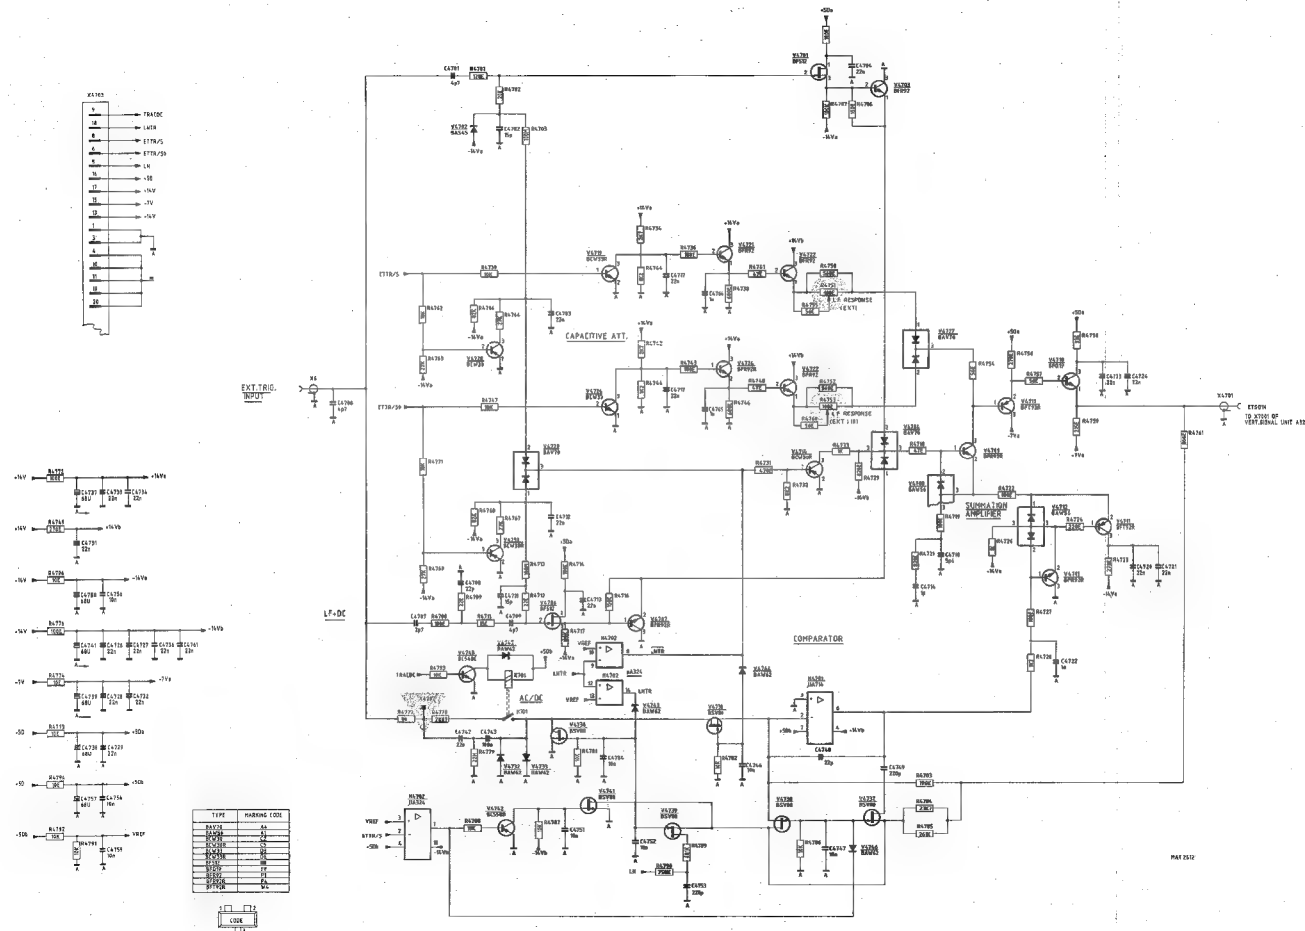

Figure 8.31.2 Unit A31 - EXT TRIG INPUT - circuit diagram.
8.31.2 Circuit Description of the EXT TRIG input (see figure 8.31.2.)